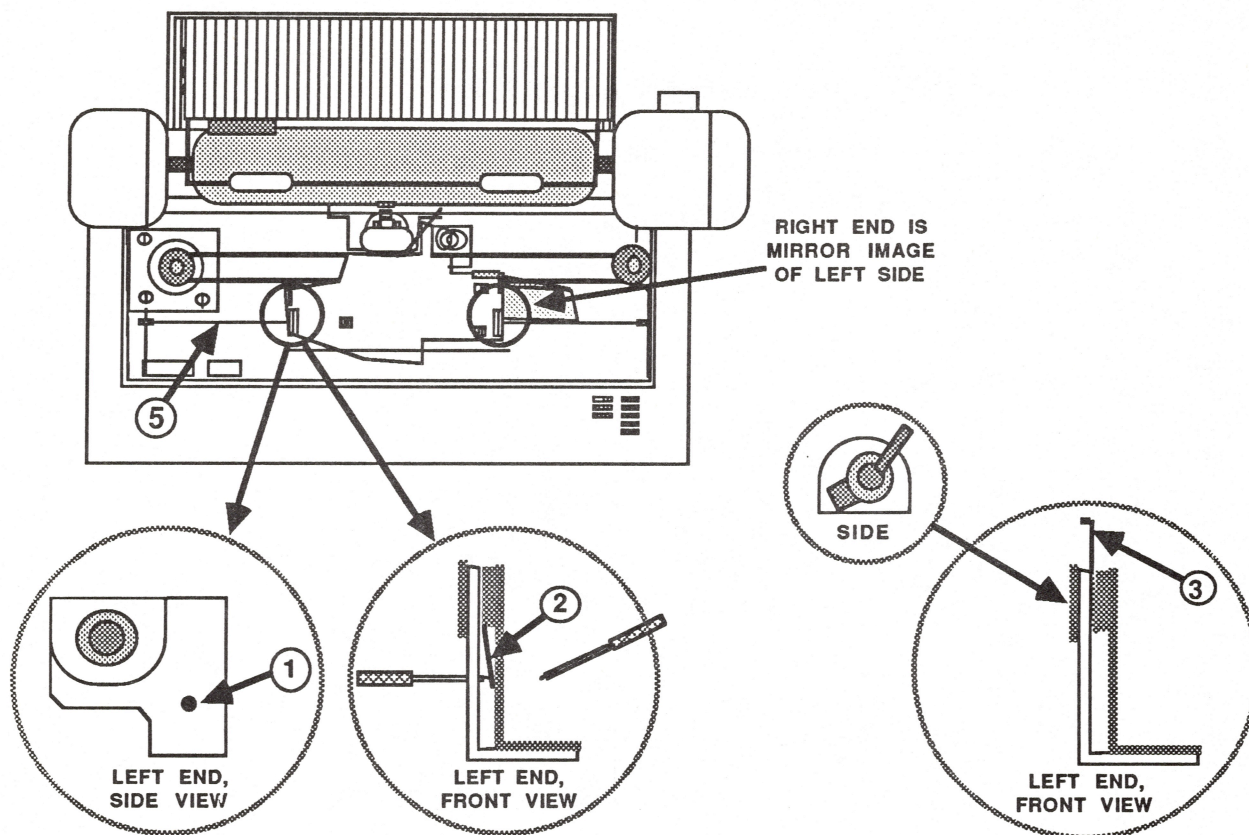

FIGURE 7
4. Locate the holes on the sides of the carrier assembly (see Figure 7, #1).
5. Gently insert a jeweler's flathead screwdriver into the hole (see Figure 7, #1). The black catch will come out (see Figure 7, #2). Gently pry the catch upwards at a slight angle with another jeweler's flathead screwdriver.
6. Move the small catch to the top (see Figure 7, #3). Gently pull the plastic piece straight out.
10. Slowly lift the entire plate up. If the ribbon wire (see Figure 7, #5) attempts to come with it, repeat step 9. The gears are located under the plate.